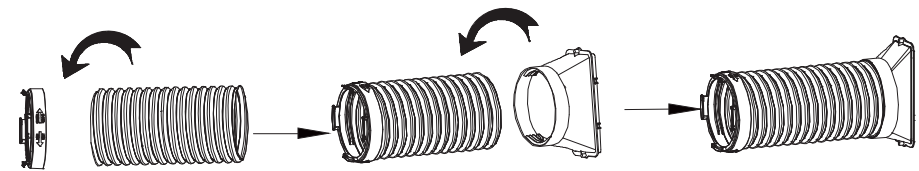

Fig.1
1. Install the Exhaust pipe assembly (as shown in Fig.1).